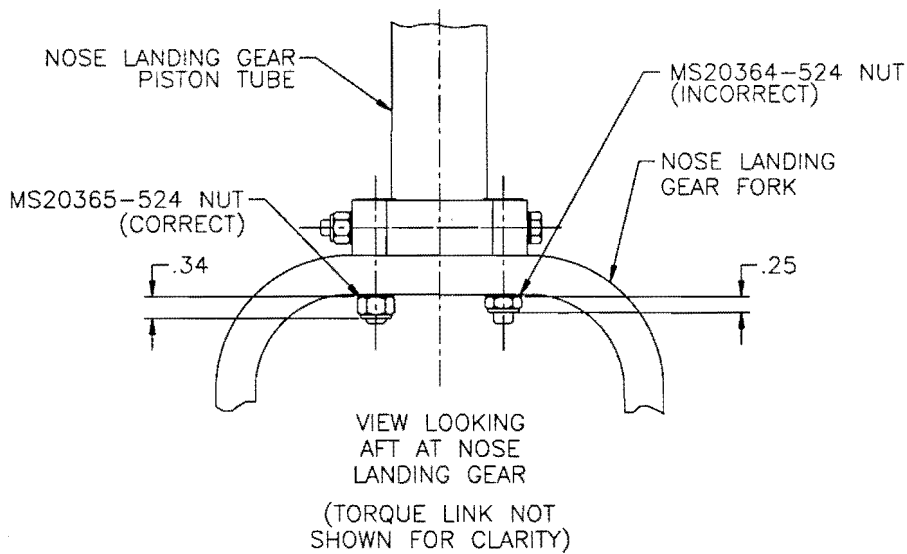

Figure 1
2. If the nuts are type MS20365-524, then proceed to the Compliance Section. If the nuts are type MS20364-524 then proceed to Part II. The difference between the two types is shown in Figure 1.
Refer to Figure 1